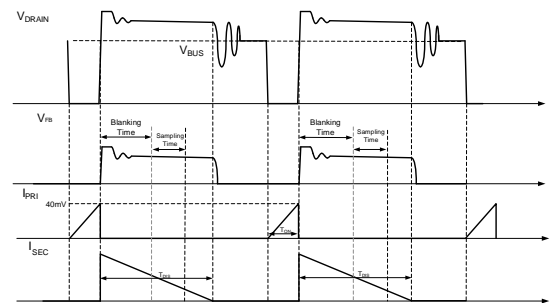
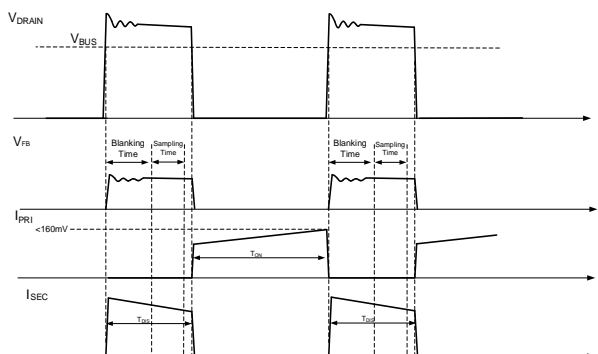

Fig.5 FB Sampling in DCM
Fig.6 FB Sampling in CCM
In order to achieve the primary side constant voltage control, the output voltage is detected by measuring the auxiliary winding voltage using the FB pin during the secondary side output diode conduction period. As shown in Fig.5 and Fig.6, When the secondary-side diode is conducting, the FB voltage can be calculated using equation (1).
Fig.5 shows the FB sample control in discontinuous conduction mode (DCM), Fig.6 shows the FB sample control in continuous conduction mode (CCM).
The SQ33604A regulates the primary side MOSFET switching to ensure a peak current always  $\geq V_{CS\_MIN}/R_{CS}$  in PSR mode, and will start sampling the auxiliary-winding voltage after the power MOSFET is turned off. A blanking time is added to avoid measurement during the ringing caused by the leakage inductance. To guarantee long enough FB sample period, the output diode current conduction time ( $T_{DIS}$  in Fig.5 and Fig.6) should always be longer than 600ns in PSR 400kHz mode, and be longer than 800ns in PSR 250kHz mode.
In constant frequency, continuous conduction mode, each switching period cycle  $t_s$  consists of two parts: current rising time  $T_{ON}$ , current falling time  $T_{DIS}$ , as shown in Fig.6.